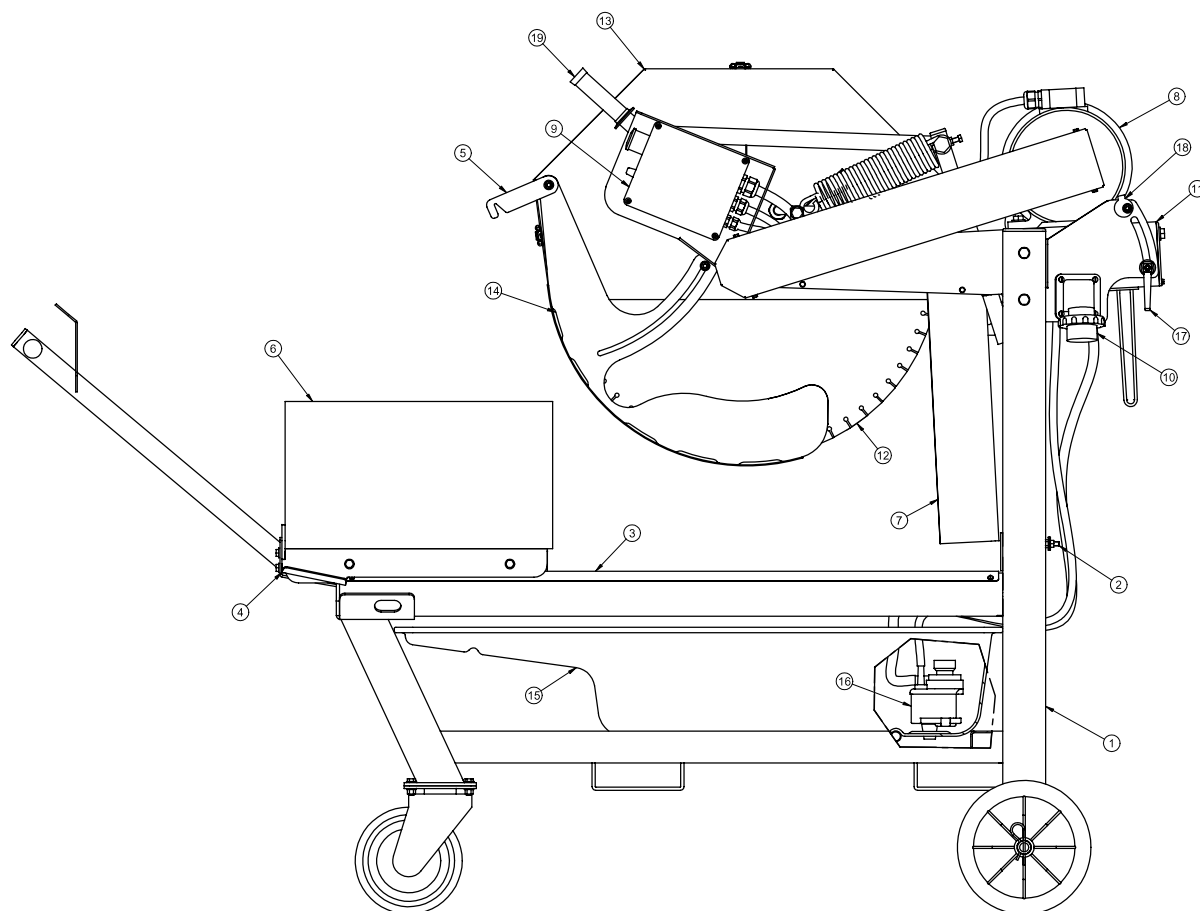

FIG. 1
- The machine should be connected to the site's equipotential earth system with a copper plait with a minimum cross section of 16 mm². The connection point is made with a screw welded on the frame (ref.2, fig.1) and identified with the earth symbol.
- Stop the saw only by means of the main switch (ref.9, fig.1).